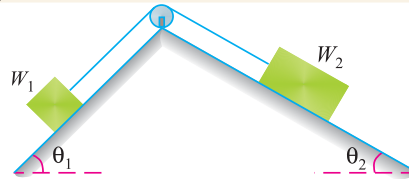

Fig. 16.25.
3. Two weights  $W_1$  and  $W_2$  are resting on two smooth planes  $AB$  and  $BC$  at angles of  $\theta_1$  and  $\theta_2$  as shown in Fig. 16.25.